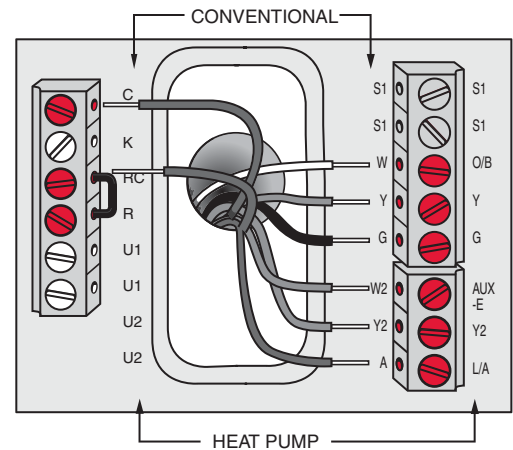

Fig. 19. Thermostat wired directly to equipment.
1. Refer to Fig. 19. See Table 10 on page 122 for terminal designations and “Wiring” beginning on page 121 for more information.